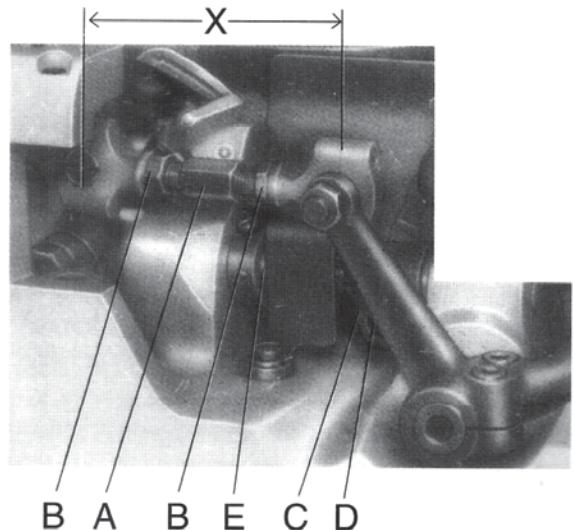
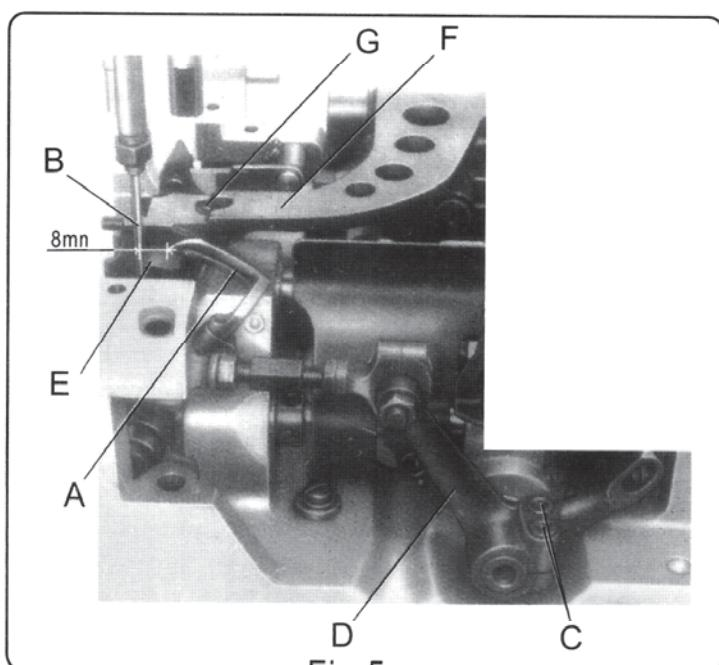
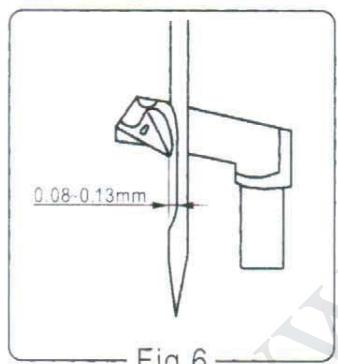
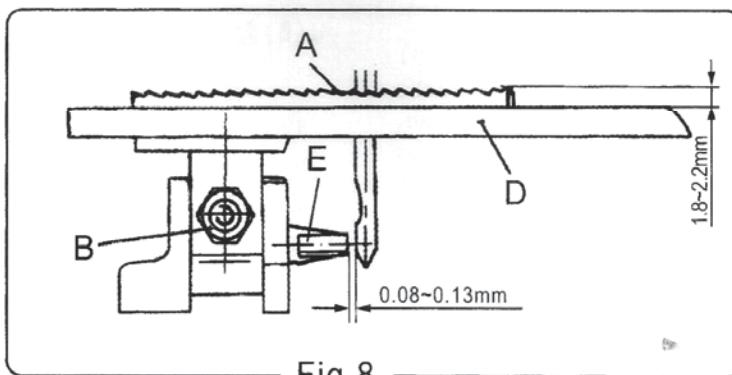

Fig.4
Fig.5
Fig.6
Fig.8
a. First set the looper connecting rod A(Fig.4), so the distance X (Fig.4) between the centre lines of the two ball joints is 69.8mm. For adjustment, loosen the two nuts B and turn connecting rod A forward or backward as required to obtain specified dimension. Retighten nuts B.
b. Rotate the machine pulley clockwise by hand, so that the needle bar moves to the lowest point, at the same time the looper moves back to its farthest position to the right. The distance from the point of the looper A (Fig.5) to the centreline of the needle is 8mm. For adjustment, loosen two screws C in the looper drive lever, rotate looper drive lever D left or right as required to obtain specified dimension and retighten screws C.
c. Rotate the machine pulley so that the looper A(Fig.5) moves from right to left. The looper point should pass close as possible as the back of the needle without contacting, about 0.08~0.13mm (Fig.6) clearance. For adjustment, loosen screw D(Fig.4) in the looper eccentric fork C and turn rocker shaft E on the looper rocker with the looper forward or backward as required. Retighten screw D.
The needle guard E(Fig.8) will protect the needle and prevent it from bending or breaking when the needle goes down. The clearance between the needle and the needle guard is 0.08mm~0.13mm(Fig.8). For adjustment, rotating pulley in the direction of operating, so that the needle guard moves against the needle. Loosen set screw G on feed dog holder (Fig.5), move the needle guard accordingly. Retighten screw G.
The height of the feed dog A(Fig.8)is determined by the quality and the thickness of the sewing materials. For closing thin material such as bags made of cloth and plastic, teeth surface should project 1.8mm above the throat plate D top surface, and for sacks about2.2mm above the throat plate. For setting, move the feed dog to the highest position, loosen nut B and adjust feed dog by raising or lowering it. Retighten nut B.